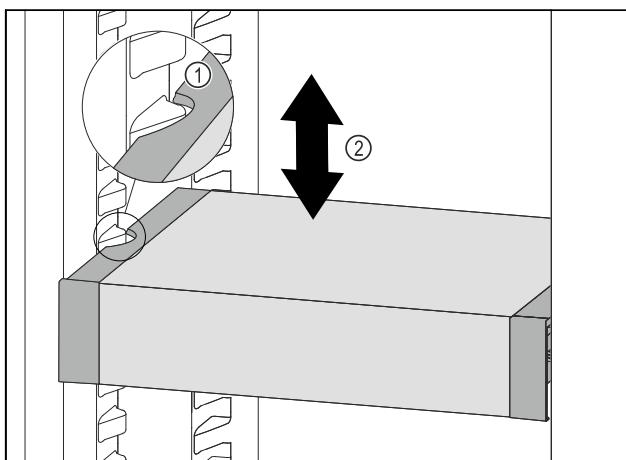

Fig. 94
- Pull VarioSafe forwards until the recesses in the side of the VarioSafe are at the level of the support rib in the refrigerator compartment. Fig. 94 (1)
- Move VarioSafe up or down in the refrigerator compartment until the desired height is reached. Fig. 94 (2)